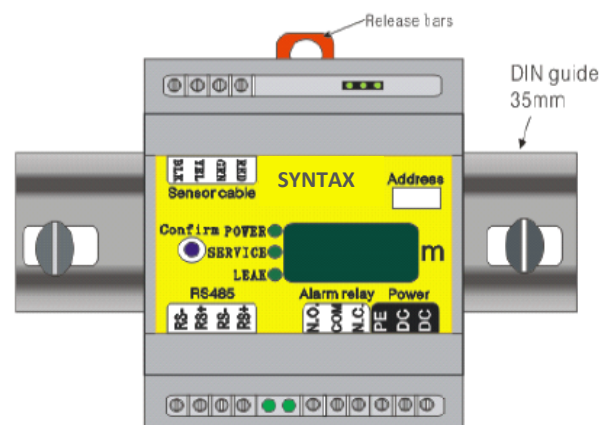

Figure 1: DIN rail mount
- Remove the A-LLM1 from its packaging and snap onto the DIN rail with the release Tab towards the bottom. Shown in Figure 1.